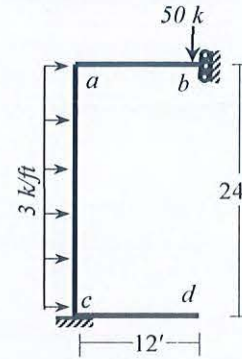

Fig.9
9. Use Stiffness Method considering geometric nonlinearity and flexural deformations only to calculate the unknown deflection at *b* and rotation at *a* of the frame *abcd* loaded as shown in **Fig.9**